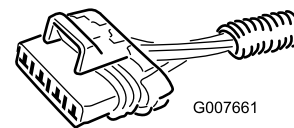

Figure 13
1. Verify that the wiring harness on the vehicle requires modification by looking for the plug shown in Figure 13 on the main wiring harness labeled “foam marker.”